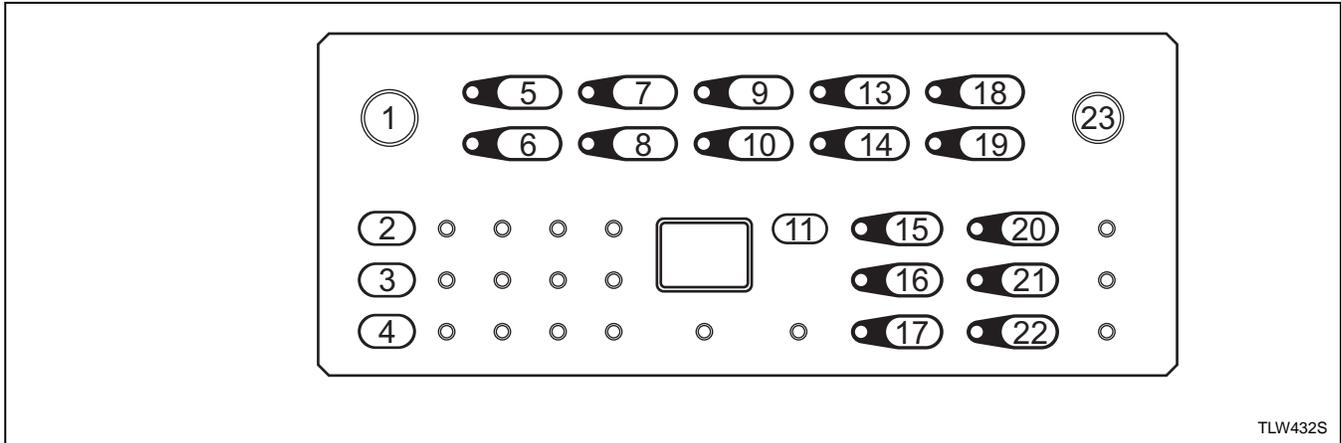

Figure 1
To enter Production Test Mode, disconnect machine from electrical power and reconnect. Within five minutes press keypads 2 and 7 (Refer to Figure 1) at the same time.
Refer to *Figure 1*.
2. Press the 4 and 14 key pads (refer to Figure 1) at the same time while water is filling. If no change is viewed on the display, first check pressure hose for damage. If hose is ok, replace pressure sensor.
NOTE: The pressure sensor can be tested by pressing both the 4 and 14 keypads (refer to Figure 1) at the same time while the machine is filling. The sensor can also be tested by performing the production test.